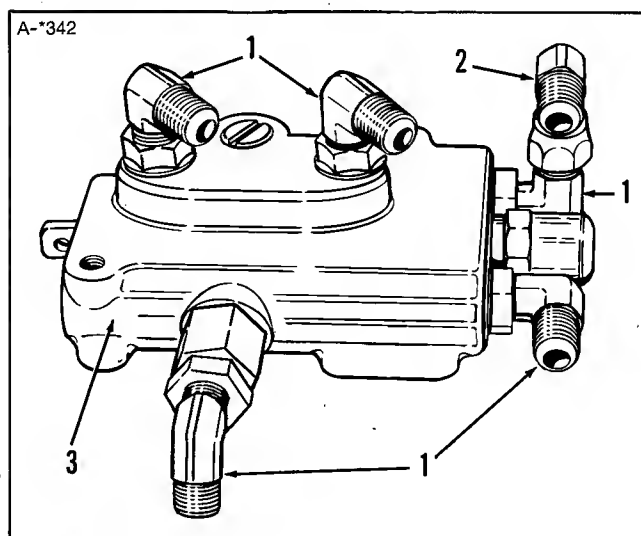

Figure 5.
5. Install the elbows (1 and 2, figure 5) into control valve (3). Place the valve in a vise with brass jaws. Screw the elbows into the valve, index as shown, then tighten nuts while holding elbows. Notice that the swivel elbow (2) is installed in an elbow (1).